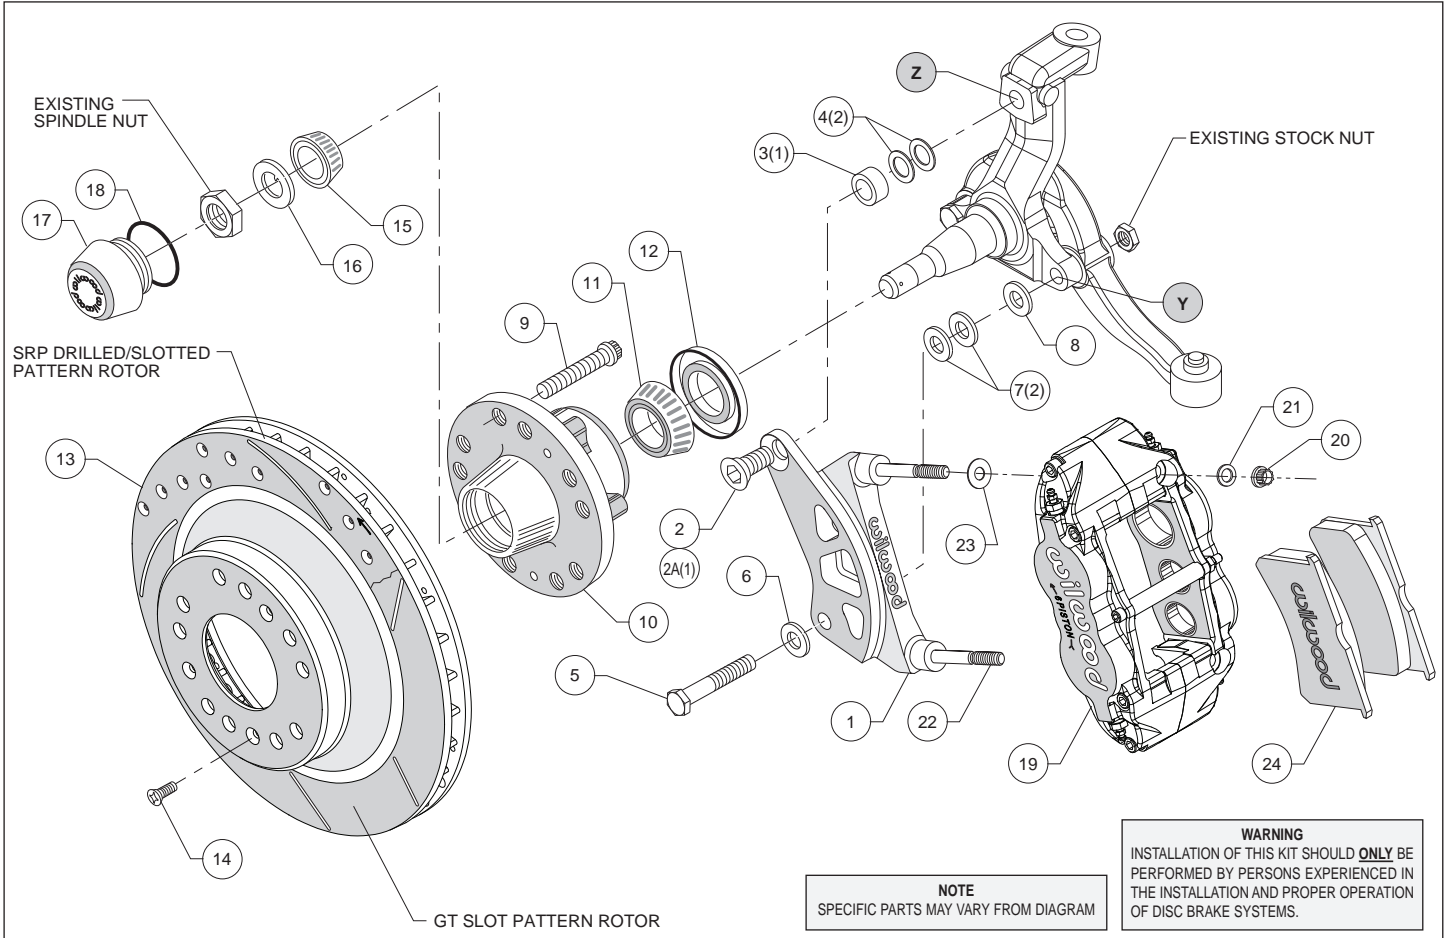
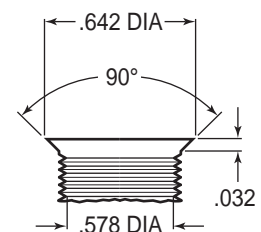

Figure 1. Typical Installation Configuration
Figure 3. Drill and Tap Detail
Assembly Instructions (numbers in parenthesis refer to the parts list on the preceding page, and Figure 1):
•**NOTE:** 1964-66 spindles may require the following modifications (reference figure 1 and 3): Top anchor pin hole (Z) must be drilled and tapped to the dimensions as outlined in Figure 3. Bottom rear steering arm bolt hole (Y) in the spindle and steering arm must be enlarged to .50" by drilling. A 1/2-20 backing nut (not supplied in kit) will need to be acquired to torque bracket / steering arm bolt (supplied in kit).
•**Disc Application:** The caliper mount bracket (1) should be installed first with clean, dry threads on the mounting bolts. Orient the bracket as shown in Figure 1, and install using bottom bolt (5), washer (6), and washer (7, Heidts spindle kit only). Install the upper bolt (2A), spacer (3) and washer (4, Heidts spindle kit only), finger tighten only. **NOTE:** The bracket must fit squarely against the mount bosses on the upright. Inspect for interference from casting irregularities, machining ridges, burrs, etc. If needed to align the bracket parallel to the spindle, add shim washer (8) between bracket and spindle as shown in Figure 1. Once the bracket alignment is correct, remove the mounting bolts one at a time and apply red *Loctite*[®] 271 to the threads, and torque bolt (2A) to 140 ft-lbs and bolt (5) to 77 ft-lb.
•**Drum Application:** The caliper mount bracket assembly (1) should be installed first with clean, dry threads on the mounting bolts. Orient bracket as shown in Figure 1, and install using the bottom bolt (5), washer (6), and washer (8). Install the upper bolt (2), finger tighten only. **NOTE:** The bracket must fit squarely against the mount bosses on the upright. Inspect for interference from casting irregularities, machining ridges, burrs, etc. Once the bracket alignment is correct, remove the mounting bolts one at a time and apply red *Loctite*[®] 271 to the threads, and torque bolt (2) to 140 ft-lbs and bolt (5) to 77 ft-lb.
•Install wheel studs (9) into the hub (10), Photo 1. Torque to 77 ft-lb. **NOTE:** There are two five lug patterns in the hub (5 x 4.50 and 5 x 4.75). Ensure the correct hub stud pattern is being used to fit the wheel application.
•Pack the large inner bearing cone (11) with high temperature disc brake bearing grease (available from your local auto parts store) and install into the backside of the hub (10), Photo 2.
•Install the grease seal (12) by pressing into the backside of the hub (10), flush with the end of the hub, Photo 2.
- NOTE:** This kit contains distinct right and left hand calipers that must be mounted in a specific direction, as described below. Lubricate the caliper mounting studs (22) with lightweight oil. Initially place one .035" thick shim (23) on each stud between the caliper and the bracket, as shown in Figure 1 and Photo 5. Mount the caliper (19) onto the bracket (1) using lock nuts (20) and washers (21), Figure 1. Ensure that the caliper is mounted so the largest pistons are at the rotor exit end of the caliper, in relation to the direction of rotor rotation. Temporarily tighten the lock nuts.